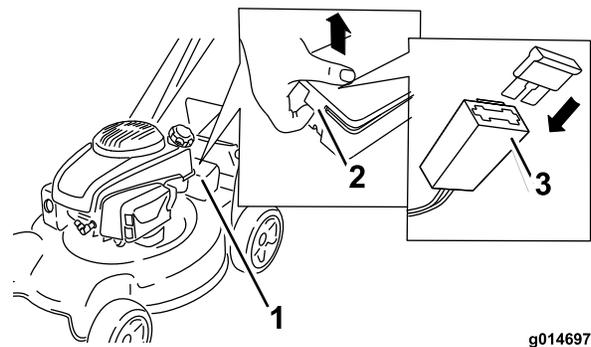

Figure 20
1. Unclip both ends of the battery cover and remove it (Figure 20).
2. Insert the fuse into the fuse holder (Figure 20).